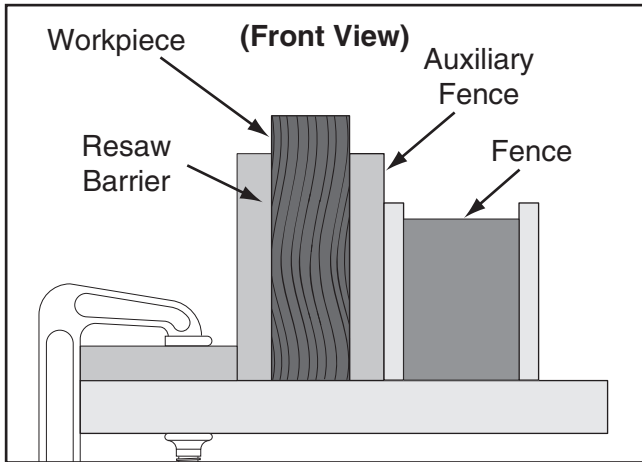

Figure 70. Ideal resaw workpiece setup.
5. Place the workpiece against the auxiliary fence and slide the resaw barrier against the workpiece, as shown in **Figure 70**. Now clamp the resaw barrier to the top of the table saw at both ends.